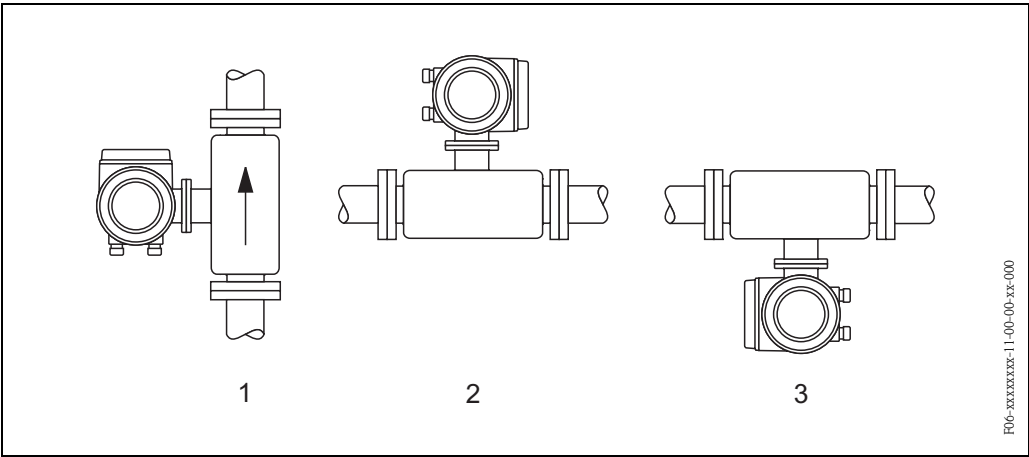

Fig. 7: Orientation Promass E
- Vertical piping: installation in accordance with Fig. 7 / View 1
- Horizontal piping: installation in accordance with Fig. 7 / View 3
- Horizontal piping: installation in accordance with Fig. 7 / View 2